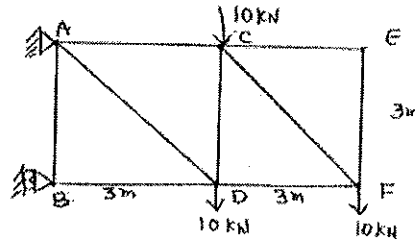

Fig.Q.4
- 4 Find the vertical deflection at 'F' for the Pin jointed truss shown in Fig.Q.4, using unit load method. Assume cross sectional area of each member as 1000 mm^2 and $E = 200 \text{ GPa}$.